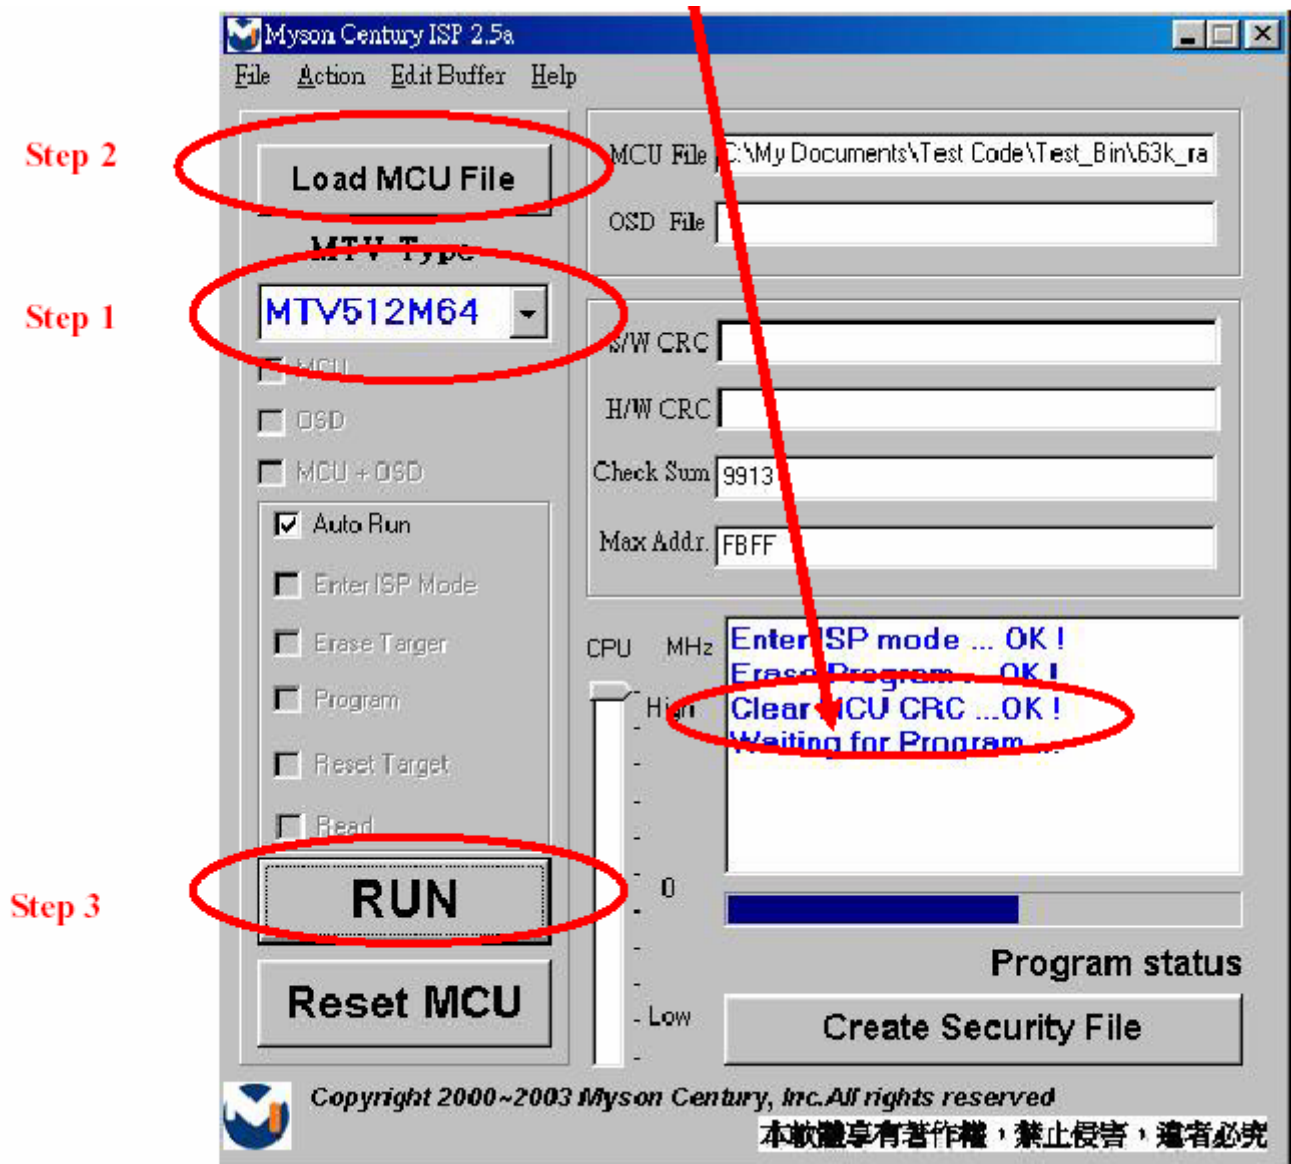

Fig 4.1
- 4.1 Select MTV type first, load the binary or Intel hex file that you want to program into the MCU, and select “Auto” item, then press “RUN” button, see Fig 4.1.